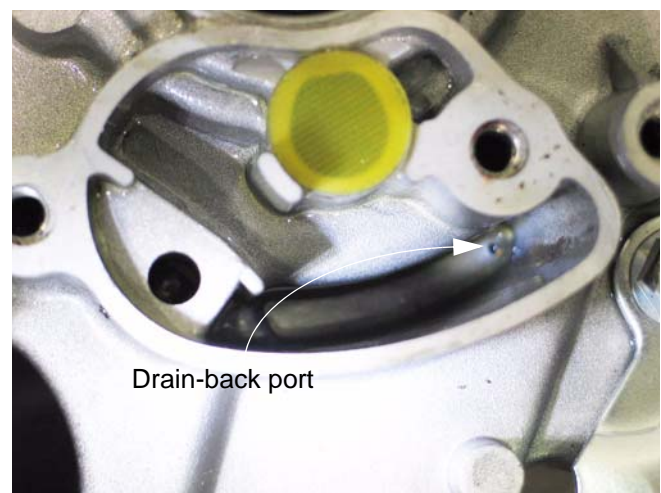

Figure 11.12
11.12. The screen accumulates droplets of oil, which eventually drip down to the bottom of the chamber. Beneath the screen is a drain-back port, leading to the crankcase. the size of the port is small enough that significant pressure does not flow through it. See Figure 11.12.